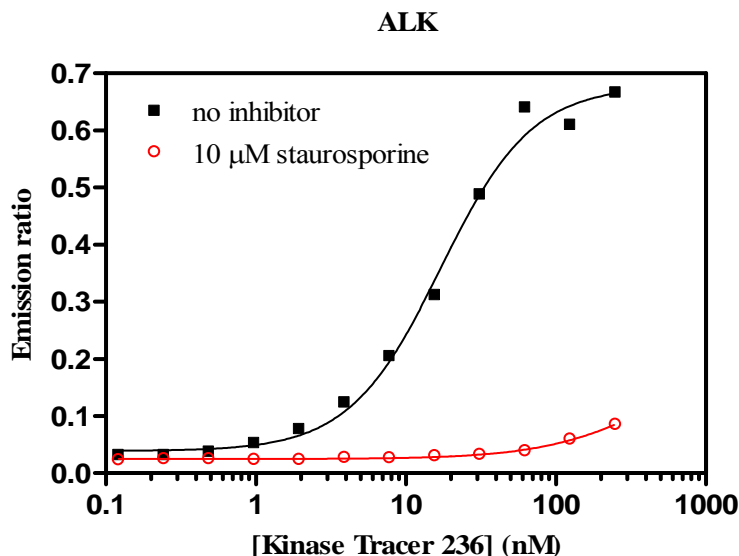

Figure 4. Tracer titration curve.
2. Plot [tracer] versus emission ratio for the competitor (staurosporine) and control (DMSO only) (Figure 4). The sigmoidal dose-response curve with a variable slope can be fit to the data (optional). The following equation can be used with GraphPad™ Prism software: